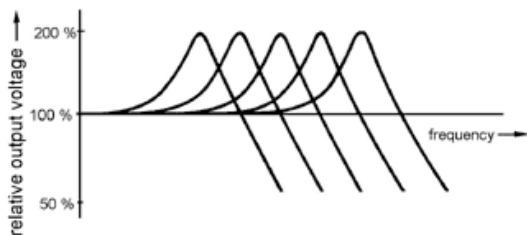

Fig. 8. Changing the frequency response with different external capacitors parallel to a pickup coil
3. Change the external load. This method is inexpensive but can be very effective. With only a little expense for electronic components, the sound can be shaped within wide limits. Standard tone controls lower the resonant frequency by connecting a capacitor in parallel with the pickup (usually through a variable resistor to give some control over how much the capacitor affects the pickup). Therefore, one way to change the sound is to replace the standard tone control potentiometer with a rotary switch that connects different capacitors across the pickup (a recommended range is 470 pF to 10 nF). This will give you much more sound variation than a standard tone control (Fig. 8).